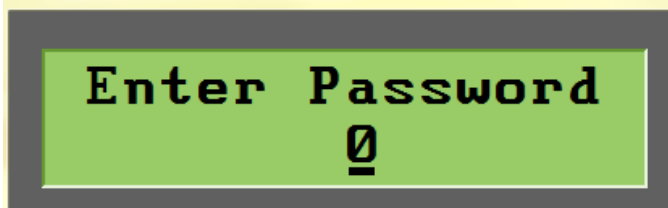

Figure 4-1. Password Screen
1. Press “ENTER” on the keypad of your portable ultrasonic handheld unit. The text in Figure 4-1 will be displayed.